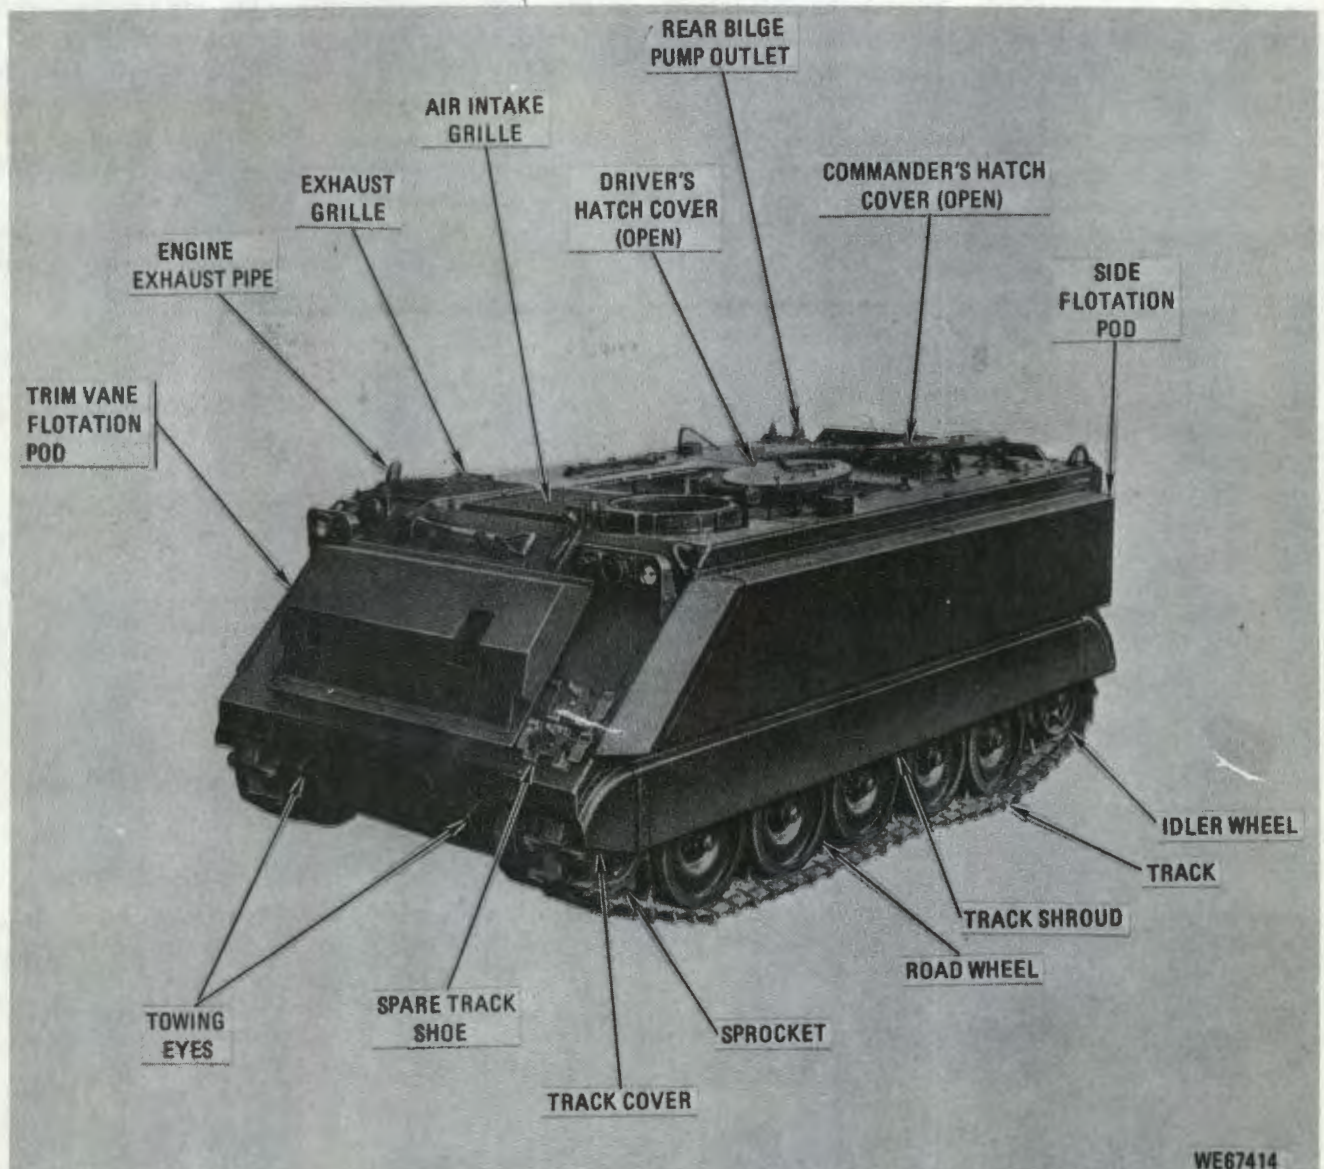
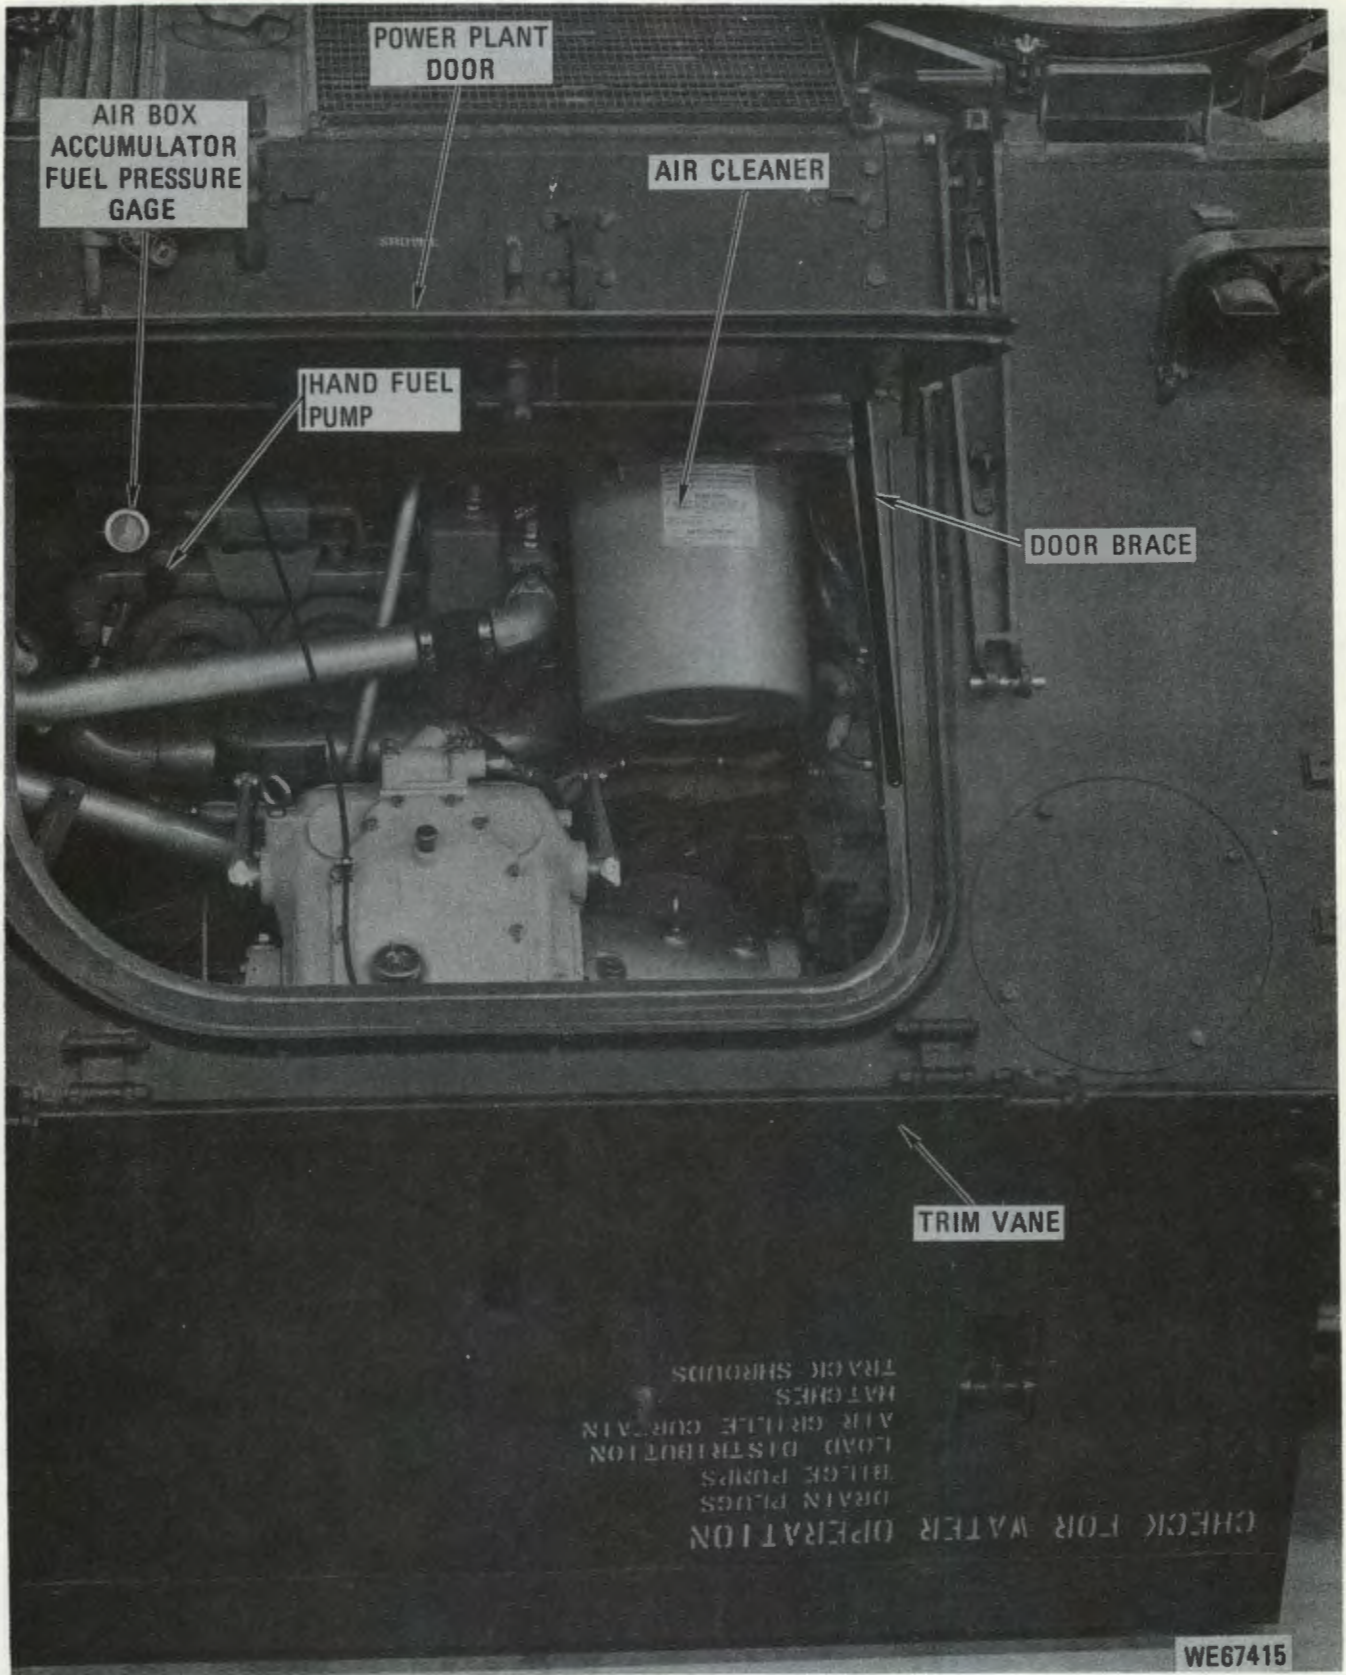
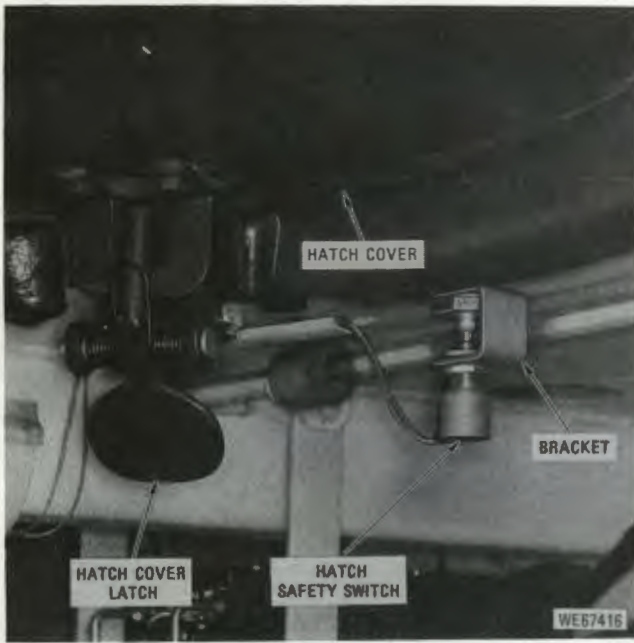

Figure 1-2. M741 chassis, left front view.
Figure 1-4. Power plant compartment.
Figure 1-6. Hatch safety switch (typical).
b. **M741 Chassis.** The M741 chassis is a modified M113A1 full tracked chassis that provides a stable gun platform (fig. 1-2 and 1-3).
(a) **Construction.** The M741 chassis hull is constructed of aluminum armor plate reinforced with internal framing. The all-welded construction provides a watertight hull. Hatches, door, and other openings have watertight seals. A trim vane (fig 1-2) on the front of the hull stabilizes the chassis during water operation.
(b) **Power plant compartment.** The power plant compartment (fig 1-4) is located in the front section of the hull and is closed off by bulkheads from the personnel and driver's compartments. The power plant is accessible by removing access panels in the bulkheads or through the hinged power plant door on the front slope of the hull. Air intake and exhaust grilles (fig 1-2) are welded components of the power plant grille. An air grille curtain (fig 2-46) is provided for use during water operation to prevent water from being splashed into intake and exhaust grilles.
(c) **Driver's compartment.** The driver's compartment (fig 1-5A) is located at the front left side of the chassis. A hatch above the driver's compartment (fig 1-2) is fitted with a torsion-spring counter-balanced hatch cover. The hatch has four
M17 periscopes positioned around it. One M19 periscope (infrared) is stowed on the hull wall to the left of the driver. The M19 periscope can be quickly installed in the driver's hatch cover when needed. The driver's hatch cover is provided with a safety switch (fig 1-6). This is to prevent injury of personnel, from the cannon barrels during mount movement, when the hatch is open.
3. The commander's hatch (fig 1-2), located above the commander's seat, is fitted with a torsion-spring counterbalanced cover. This hatch is also provided with a safety switch (fig 1-6) to prevent personnel injury.
train, except final drives, are mounted in the power plant compartment (fig 1-4). Power is transmitted through the differential to both left and right final drives, which connect directly to track drive sprockets.